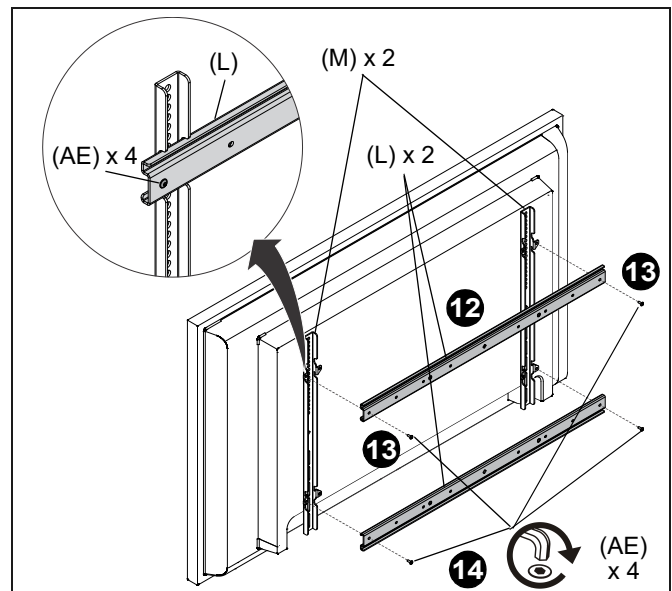

Figure 9
13. Use 1/8" hex key (AG) to secure upper horizontal interface (L) to left and right vertical interfaces (M) using four 10-24 x 1/2" button head screws (AE). (See Figure 9)
14. Repeat steps 10-13 to install lower horizontal interface (L).
IMPORTANT ! : The orientation of, and mounting holes used, when installing the lower horizontal interface must be the same as the upper horizontal interface (L). Vertically align upper and lower interfaces by aligning holes or end of slots. (See Figure 9)